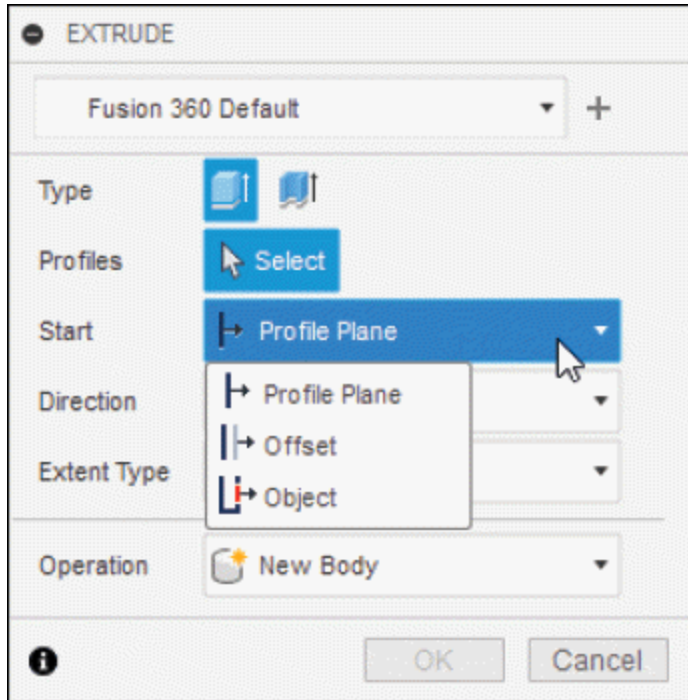

Figure-32. Start drop down
- There are three tools in **Start** drop-down; refer to Figure-32.